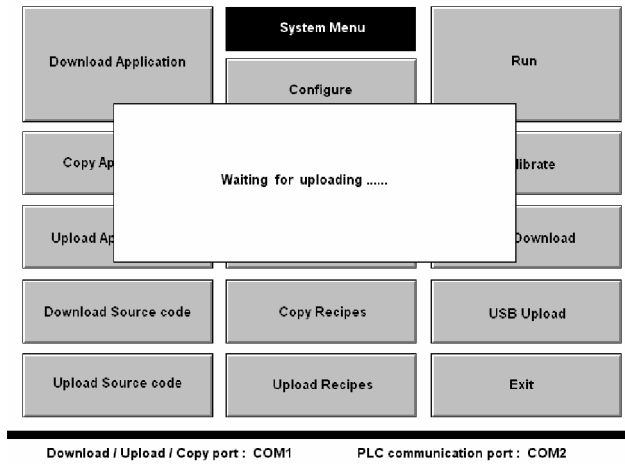

Figure D-34: the screen of “waiting for Uploading”
2. Be sure DIP-SW No 7 is “ on” then turn on the power on HMI and press the “USB Upload” button on system menu. The PWS3261 displays “waiting for Uploading” and is ready to receive a upload. See Figure D-34.